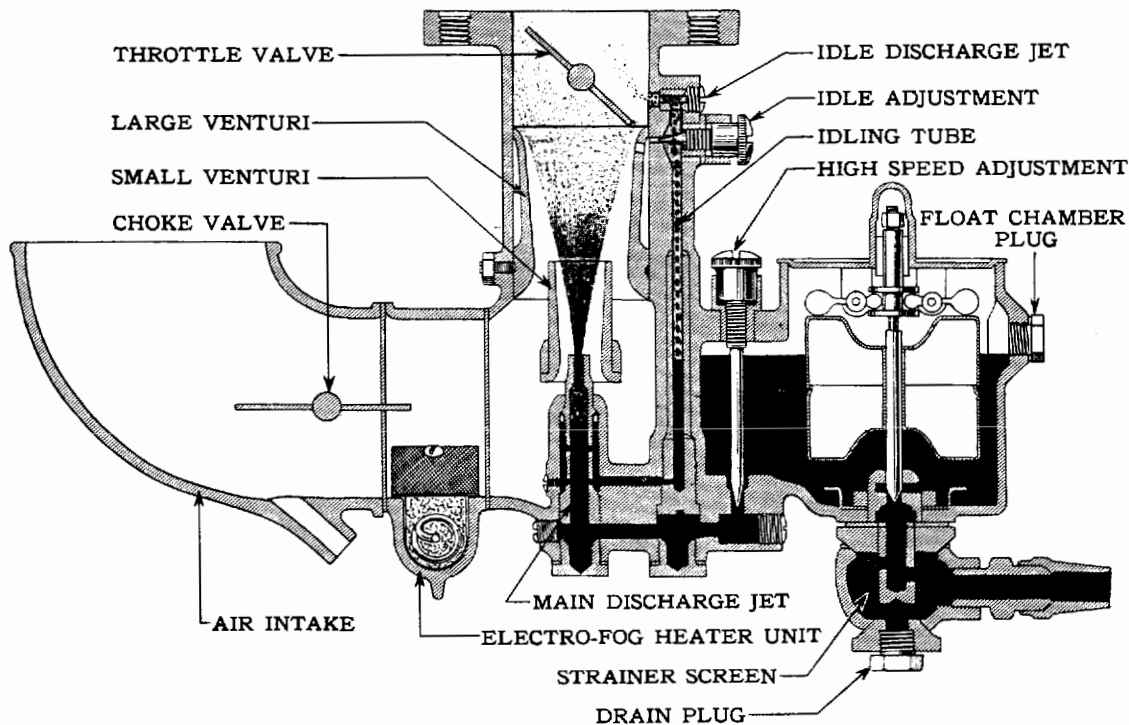
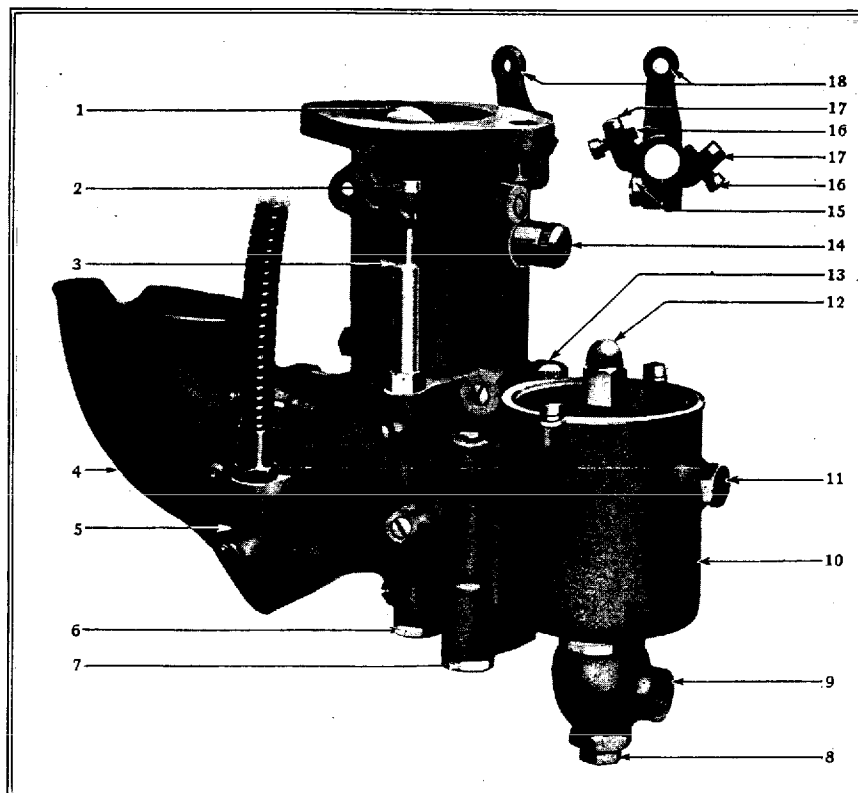

Fig. 67
Fig. 72
In the Lincoln carburetor the gasoline, during idle and low speed running, is carried up to the lip of the throttle, when it is discharged directly into the intake manifold in an extremely fine spray. See Fig. 67. In this way any collection of gasoline in the carburetor is prevented.
If the engine should cease to perform properly first examine the fuel supply and see that there is fuel in the vacuum tank and carburetor; make sure that the strainer in the fuel line is not clogged. Disconnect the fuel line to carburetor at (9) Fig. 72. Remove screw (8) and the strainer body (9) may be removed and the strainer cleaned. Each time the valves in the engine are ground or carbon removed, the strainer should be cleaned. Also remove the idling jet tube Fig. 67 and clean. Also see that the breaker points are properly adjusted and the distributor clean. **Never** change the carburetor adjustment until all other possible sources of trouble have been investigated. Slight carburetor adjustment may occasionally be necessitated by seasonal changes in temperature or by a change in the grade of fuel.
To determine if fuel is flowing to the carburetor remove the needle valve cap (12) Fig. 72 and be sure the plunger needle inside is all the way down. Fuel is not reaching the float chamber if the plunger can be pushed down.
Both the idling mixture and low speed or closed throttle running, up to about 8 miles per hour, are controlled by the idling adjustment screw (14) Fig. 72. This controls the inlet of air. See Fig. 67. Turning this screw clockwise gives a richer, counter-clockwise a leaner mixture.
The amount of fuel for the high speed or normal driving adjustment is regulated by the high speed adjusting screw (13) Fig. 72. Turning this screw down or clockwise closes the valve and admits less fuel, up or counter-clockwise, admits more.